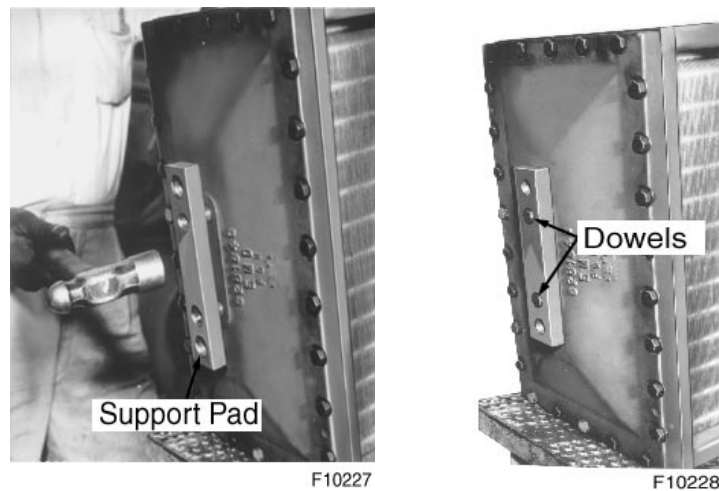

Figure 10-7. Support Pad To Dowel Installation .
2. Apply the support pad to the back plate dowels the aftercooler, Figure 10-7, with the gasket in position at the outside so as to contact the air duct.